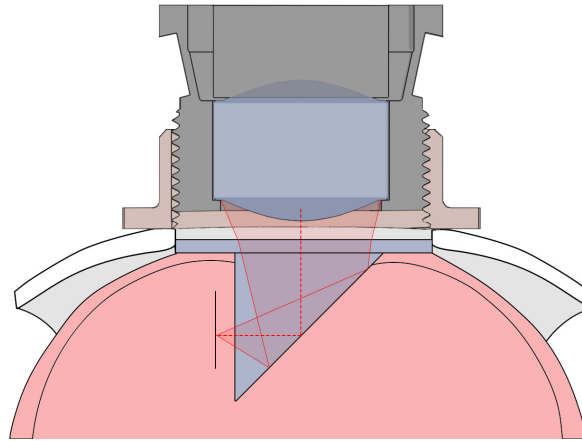

Figure 2.6: *Side-prism Method*
- The **Side-prism Method** (Fig. 2.6) can be used in conjunction with a **Cranial Window**. A microprism is inserted into the surface areas of the brain, which allows the viewing of regions perpendicular to the normal focal plane.